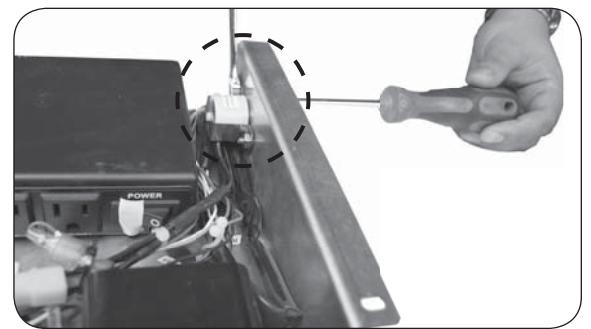

Fig. 1-3 Remove screws
3. Use the Phillips screwdriver and 11/32"open-endwrench to remove the 2 screws and nuts as shown in Fig. 1-3.